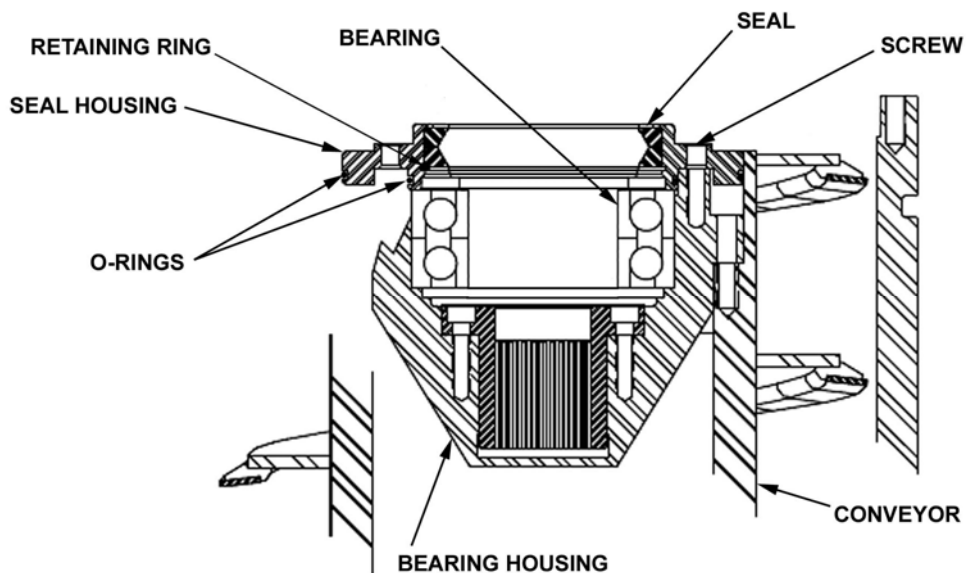

Figure 5-12 Liquid End Conveyor Thrust Bearings Installation
3. Remove screws securing liquid end seal housing (Figure 5-12) to bearing housing, and remove seal housing. Remove and discard O-rings installed in external grooves of seal housing.
1. Insert new seal into liquid end seal housing (Figure 5-12), and secure with retaining ring. Install new O-rings in external grooves of seal housing.